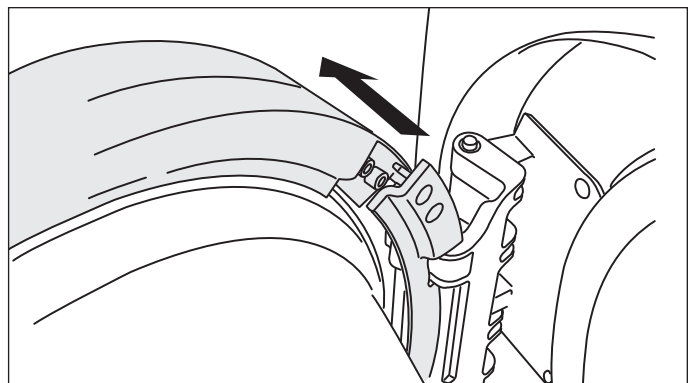

Figure 2-20.
3. While supporting the weight of the door with both hands, separate the door from the hinge. (See Figure 2-20)